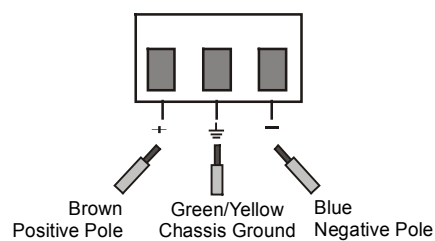

Figure 2
3. Connect the power supply wire leads to the power source (48V or 24V) according to power source regulations. See *Figure 2* for proper wire voltage polarity.